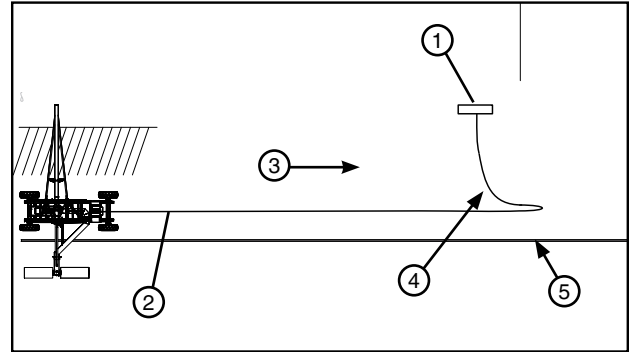

Figure 67-1 1. Power Pedestal 2. Electric Cord 3. Direction of Travel 4. Buried Cord 5. Furrow or Cable Guidance
- (b) Position the electric cord between the cart wheel tracks. To prevent interference between the electric cord and cart tires, bury the electric cord in the area where interference will occur or when applicable. See Figure 67-1.
- (c) Position the electric cord far enough away from the hose, so that the hose will not drag over it. To prevent interference between the electric cord, cart tires and hose, bury the electric cord in the area where interference will occur or when applicable, position the electric cord over the top of hose. See Figure 67-1.